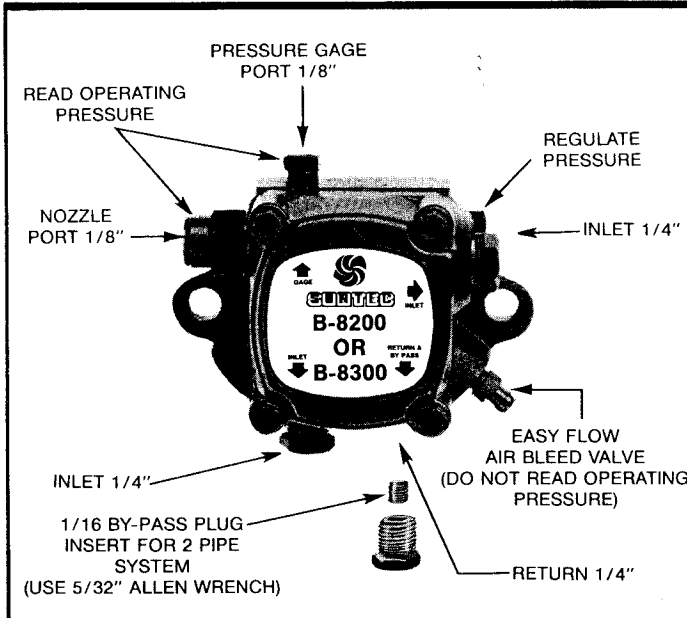

FIGURE 1
**REMOVE 1/16" BY-PASS PLUG FROM PLASTIC BAG ATTACHED TO UNIT.** Remove 1/4" plug from return port. Insert by-pass plug (See Figure 1 or 2), tighten plug. Attach return and inlet lines. Start burner — Air bleeding is automatic. Opening Easy Flow Air Bleed Valve will allow a faster bleed if desired. Return line must terminate 3-4" above supply line inlet. (See Figure 4). Failure to do this may introduce air into the system and could result in loss of prime.